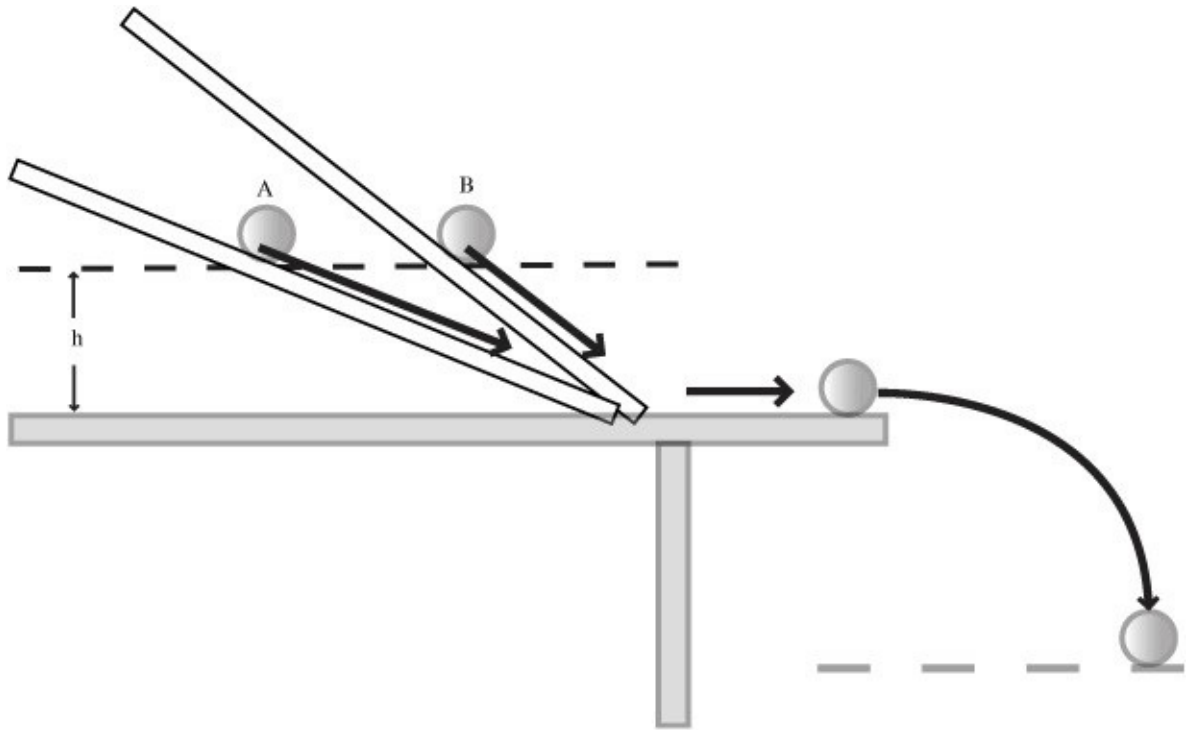

Figure 49-1
1. Set up the inclines at two different slopes, as shown in Figure 49-1. Allow enough space at the bottom of the incline so that the golf balls roll off the table horizontally.